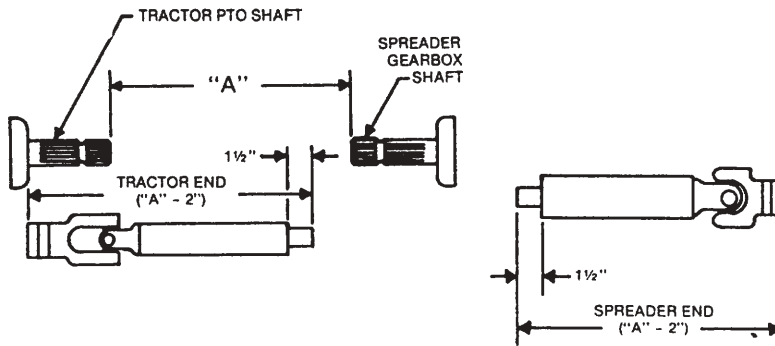
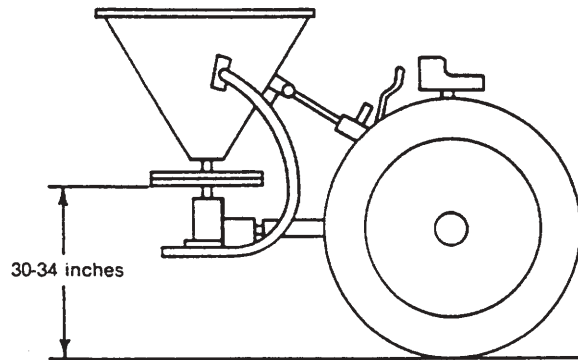

FIGURE 1
FIGURE 2
(REFER TO FIG. 1)
(See figure 2.) Measure the distance between the ends of the two shafts, Dimension "A" (Fig. 1). Each half of the PTO should be equal to Dimension "A" minus two (2) inches. Lay the PTO halves on a workbench and saw them off with a hacksaw. Now cut the plastic shields 1 1/2" shorter than the shafts. Remove burrs and cuttings. Now install the PTO assembly to the tractor and spreader. Carefully raise and lower the spreader and check to be sure the PTO assembly does not jam. If it does, cut equal amounts from each half of the PTO assembly.